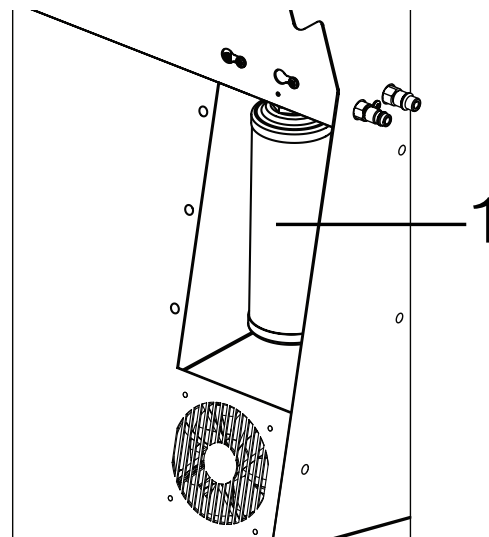

Figure 1-4. Filter Location
4. Remove the old filter (1) by turning it counterclockwise. Refer to Figure 1-4.